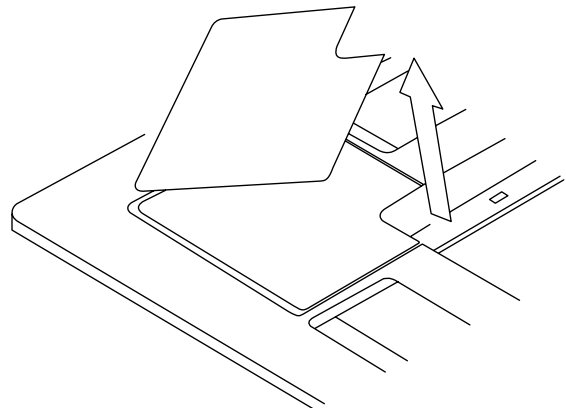

Fig. 3
(2) Remove the service cover on the corner.
- Slide the service cover outward to remove. (Refer to Fig. 3)